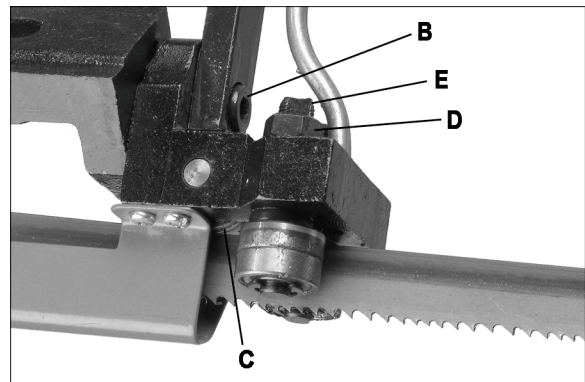
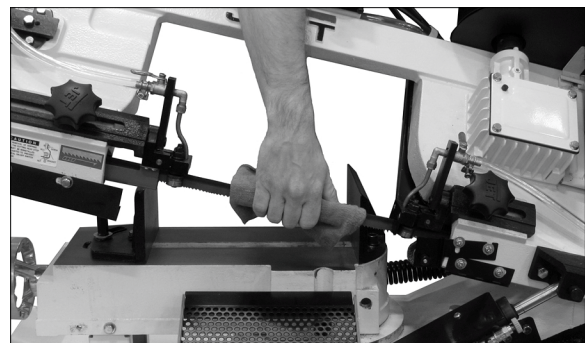

Figure 25
Figure 26
3. Loosen socket head cap screw (B, Figure 25) and adjust guide assembly until back roller bearing (C) is slightly contacting back edge of blade.
4. Loosen nut (D) and rotate eccentric shaft (E) to adjust side bearing until bearing just touches side of blade. Do not pinch the blade.
5. Blade should still move up and down freely when grasped as in Figure 26. Make sure blade teeth do not interfere with guide bearings.